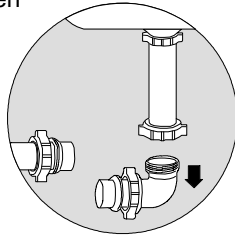
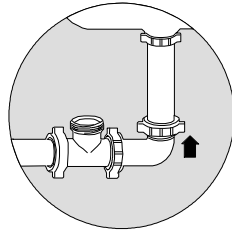

FIG. 8
FIG. 9
2. Slip S.J. nut and beveled waster over both ends of cut tube, then insert the 3-way repair tee in the following manner: Loosen the S.J. nut on the horizontal waste ell where it joins the vertical tailpiece. (See Fig. 8) Remove the short “ell” piece by pulling down the tailpiece. (Fig. 8), then put cut ends of ell into tee and tilt vertical end back up over tailpiece and re-secure S.J. nut. Rotate tee so that the side outlet is facing straight up, then firmly tighten both S.J. nuts to tee. (See Fig. 9)